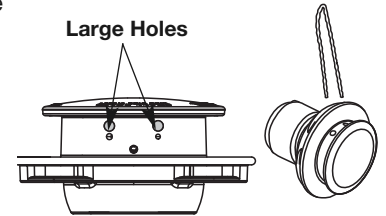

Fig. 16
4. Insert both ends of your line through the large holes in the side of the cutting head (Fig. 16).